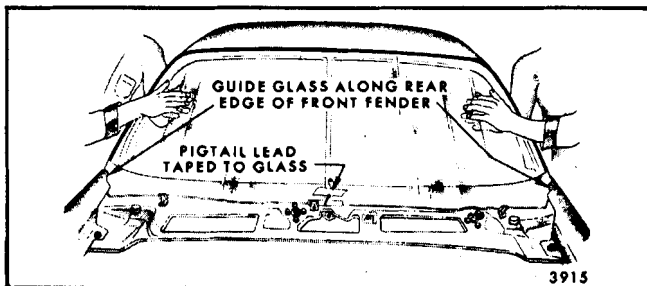

Fig. 4-5-Glass Installation
8. With aid of helper, lift glass into window opening. On back window installations it will be necessary to use suction cups to position glass in opening. Windshield glass can be positioned without aid of carrying devices. As shown in Figure 4-5, carry
6. With aid of helper, lift glass into window opening. On back window installations it will be necessary to use suction cups to position glass in opening. The windshield glass can be positioned without aid of carrying devices as described in Step 7 (Figure 4-5).
16. Using tape guides applied in Step 10, carefully position glass in window opening. Guide lower outer surface of glass along rear edge of front fenders to avoid smearing fresh adhesive caulk material on instrument panel (Figure 4-5). Make certain glass is properly aligned so tape guides on pillars, and positioned on lower metal supports. Apply light hand pressure to "wet-out" adhesive material and obtain bond to body opening.